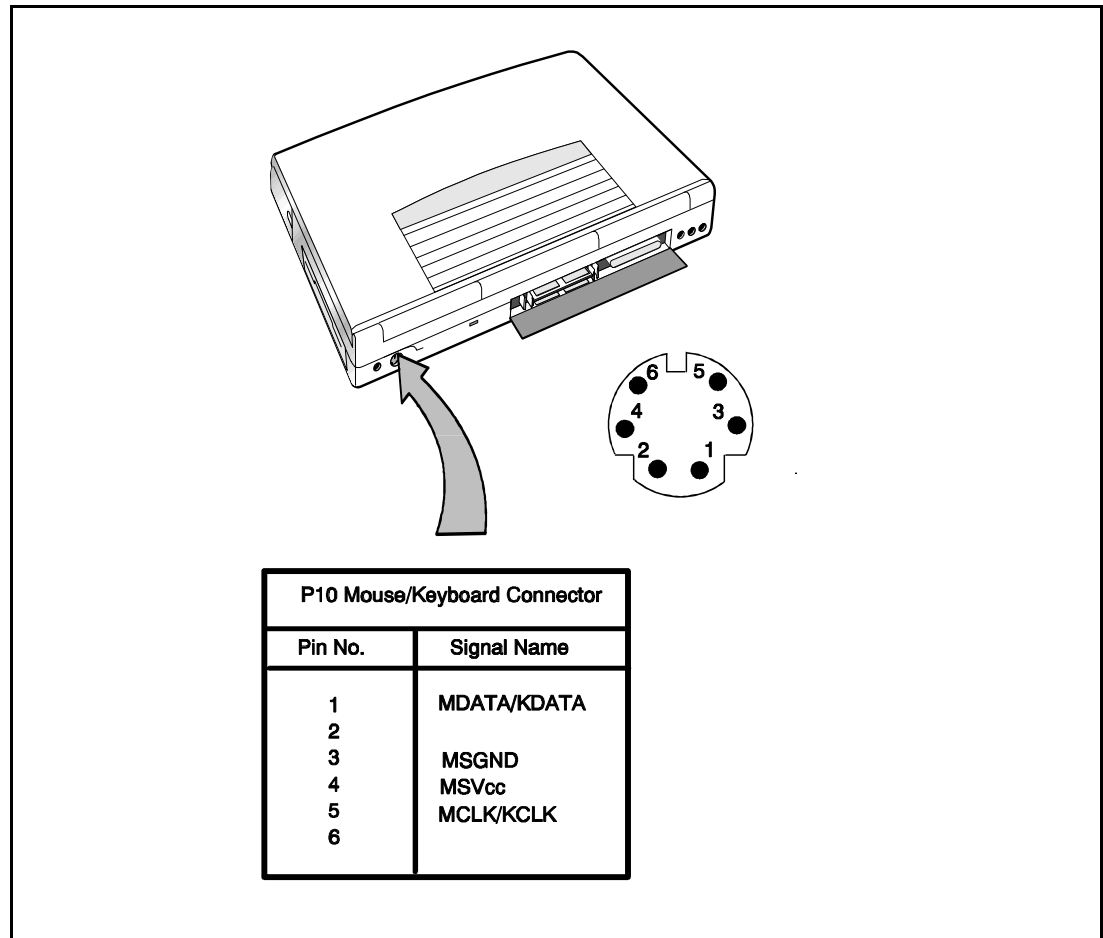
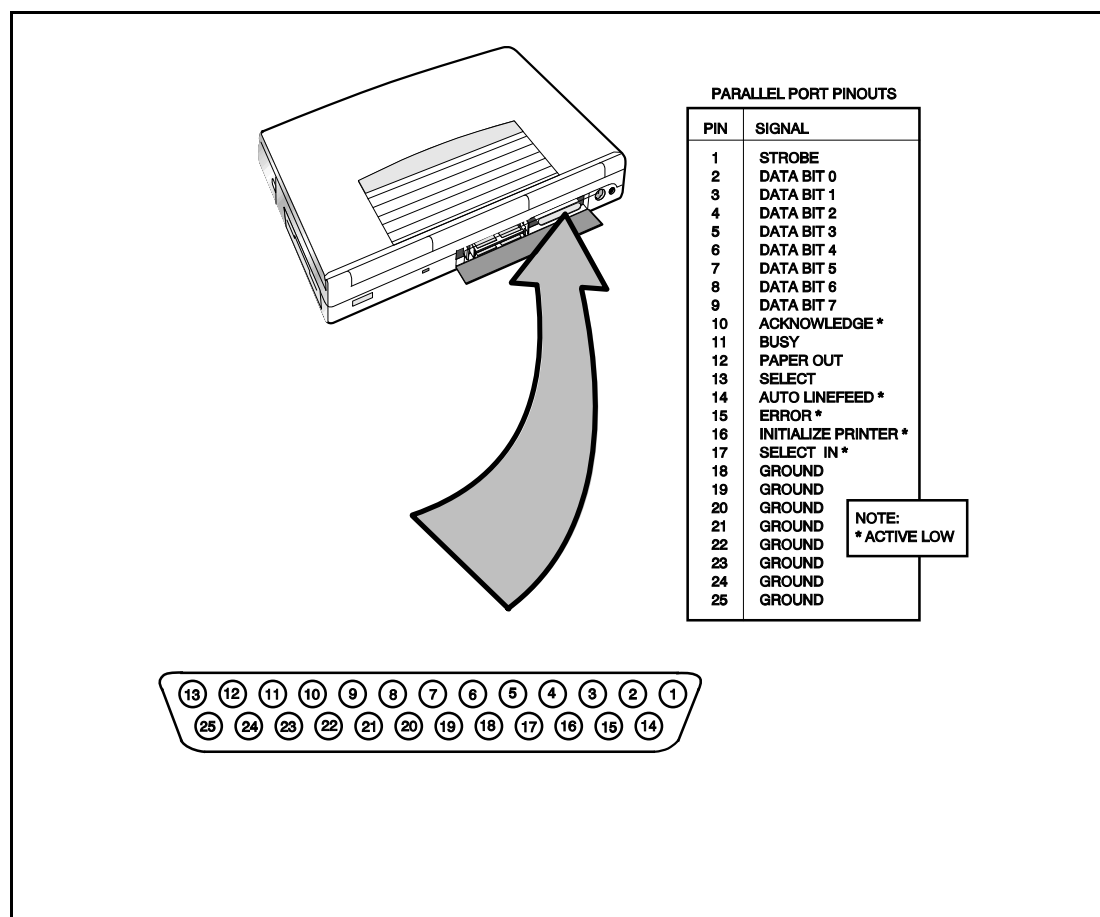

Figure 2-5 PS/ 2 Port Assignments/ Pinouts
Figure 2-6 Parallel Port Location/ Pinouts
As shown in Figure 2-5, the notebook has provisions for two external PS/ 2 compatible devices (keyboard, mouse, etc.) that may be attached to the notebook. The pinouts for the 6-pin Mini-DIN connectors are also provided in Figure 2-6.
2. Locate the external PS/ 2 port at the rear of the notebook (refer to Figure 2-5).
The Notebook is equipped with a bidirectional, ECC/ EPP compatible, 25-pin parallel printer port. The connector pinouts and connector location are shown in Figure 2-6.